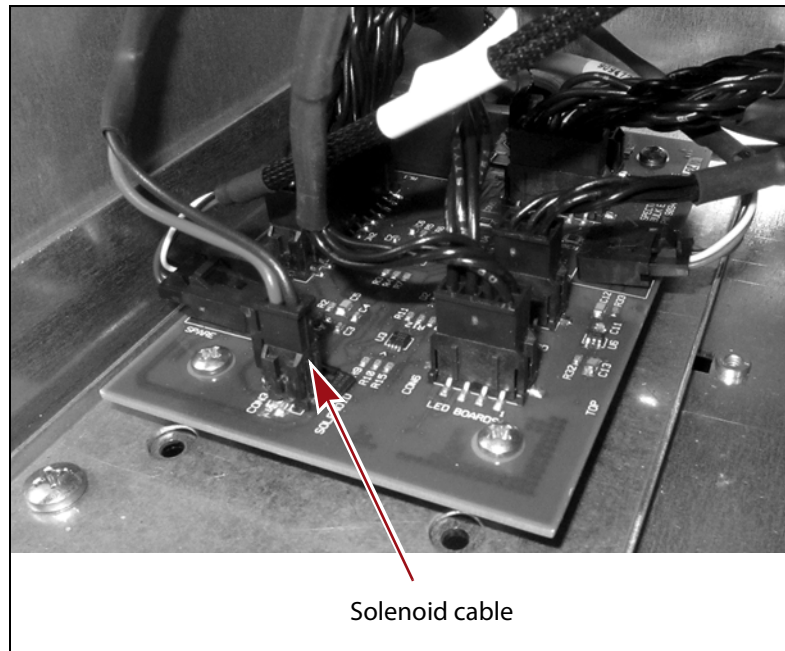

Figure 38 Disconnect the solenoid cable.
7. Plug the solenoid cable into the bulk TAP interface board (see Figure 38 on page 40).